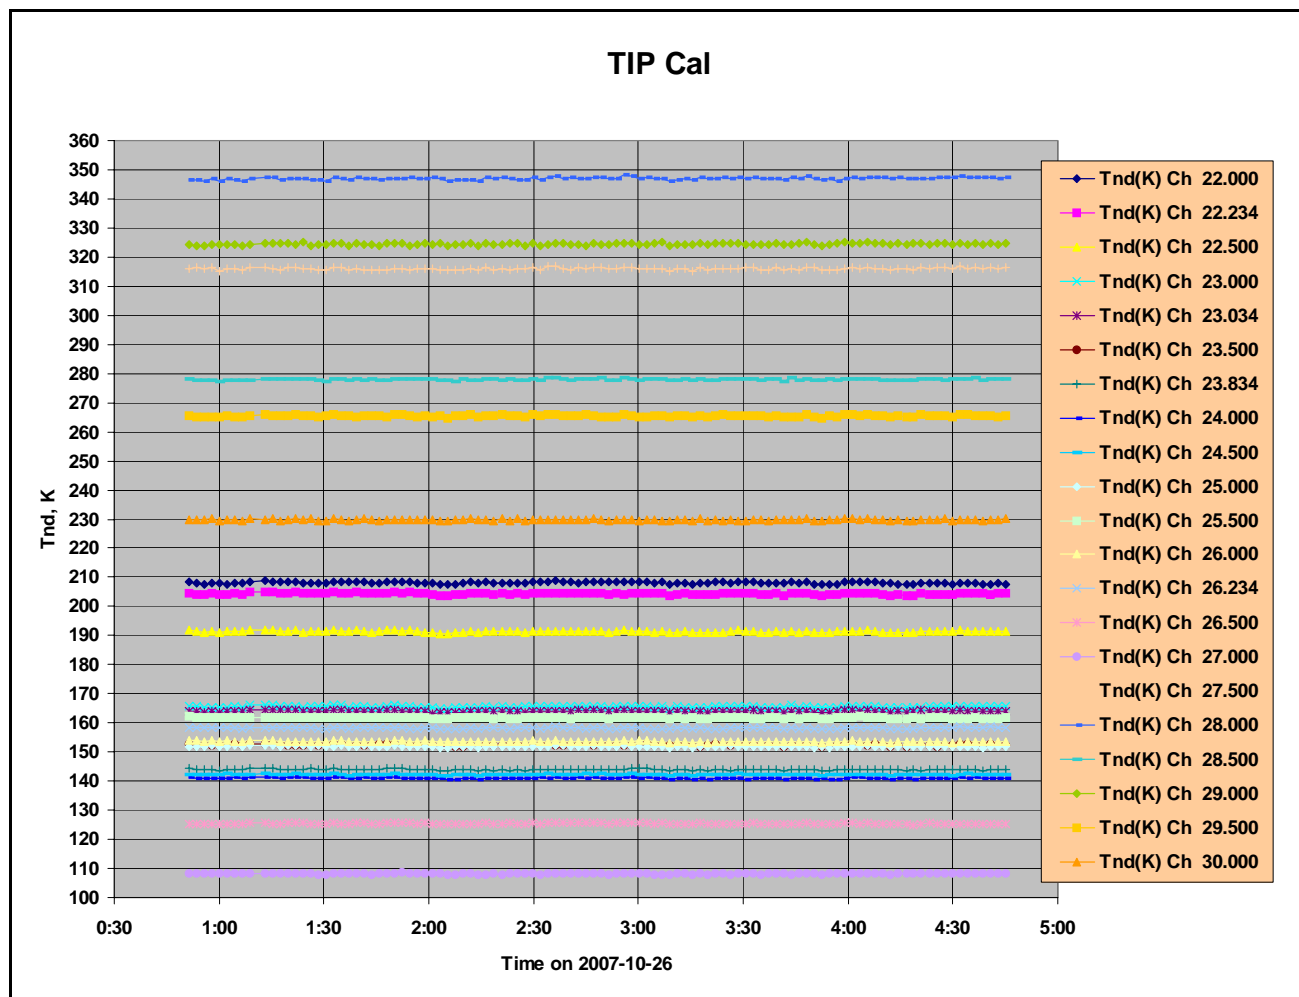

Figure 27 Example of *TIP* data plotted as a function of time.
3. Open the *TIP* data file (yyyy-mm-dd_hh-mm-ss_tip.csv) in Excel, or a similar data analysis application with graphing capability. Graph the values of Tnd for all 21 channels as a function of time. See Figure 27 for an example. Inspect the graph and select a period when all 21 channels have minimal atmospherically induced noise and maximum stability (no slope). Note a stable time period of several hours or more.